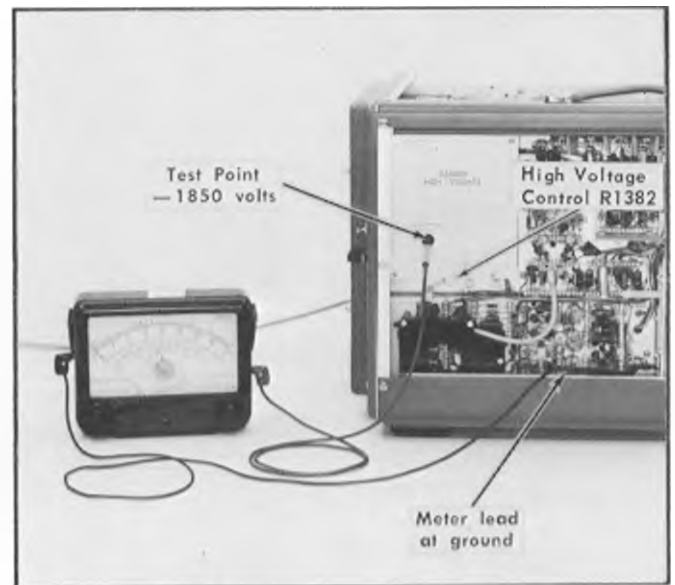

Fig. 6-11. Test setup for adjusting high voltage—Upper Beam.
- a. Connect the meter leads from the high voltage test point to chassis ground, as shown in Fig. 6-11.
- c. Adjust High Voltage control R1382 for a meter reading of —1850 volts. Fig. 6-11 shows the control location.